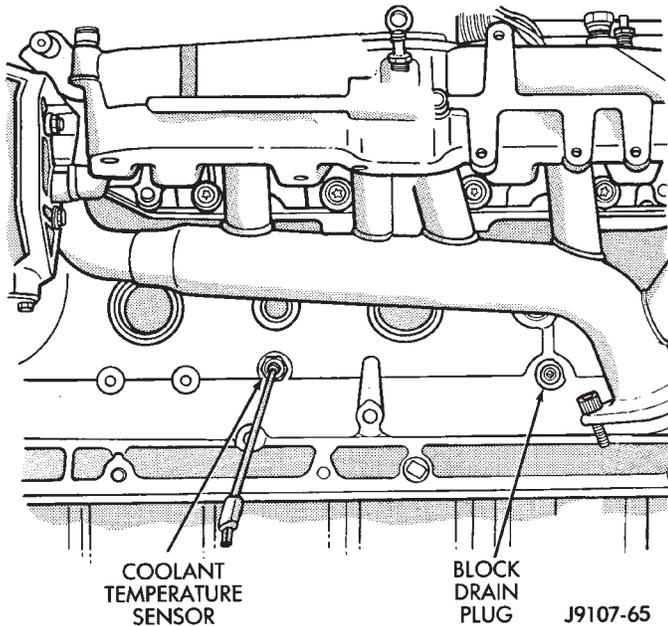
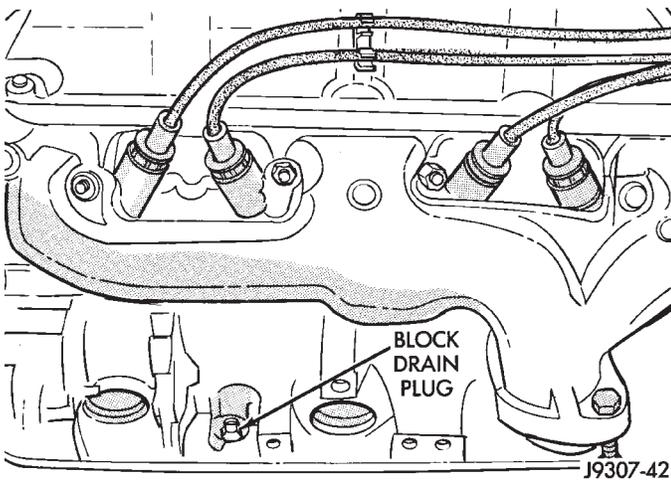

Fig. 59 Drain Plug—4.0L 6-Cylinder Engine
Fig. 60 Drain Plugs—5.2/5.9L V-8 Engines
(2) Drain coolant from radiator. Refer to Draining Cooling System in this group.
(3) Raise vehicle.
(4) Remove engine cylinder block drain plug(s) located on the sides of cylinder block above the oil pan rail (Fig. 59) (Fig. 60).